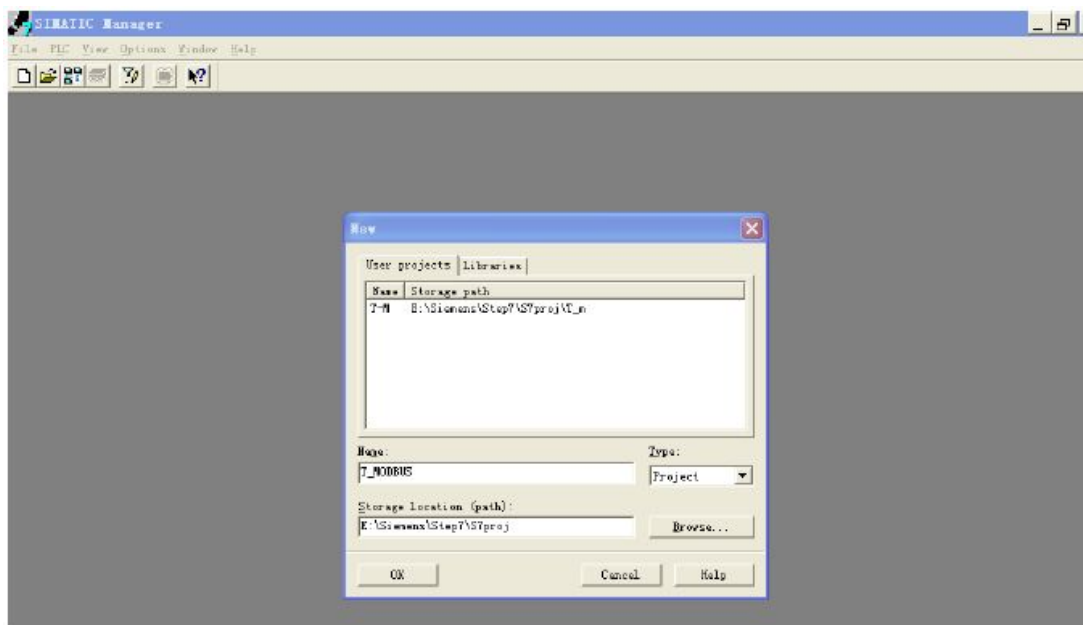

Figure 2
2. Open File, and then New, create a new project; Figure 2: